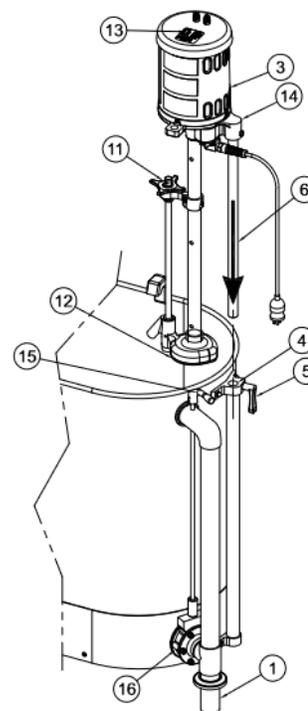

Figure 10: -S model with separate drain and overflow (-SDO)
- b. Separate drain and overflow (Figure 10): Turn handle (15) clockwise to open drain valve (16).